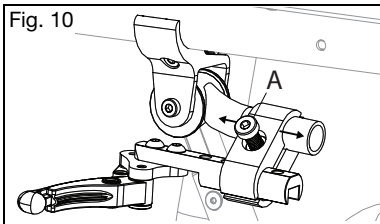

Fig. 10
1. Use a 6mm Allen wrench to loosen the clamp bolt (Fig. 10:A).